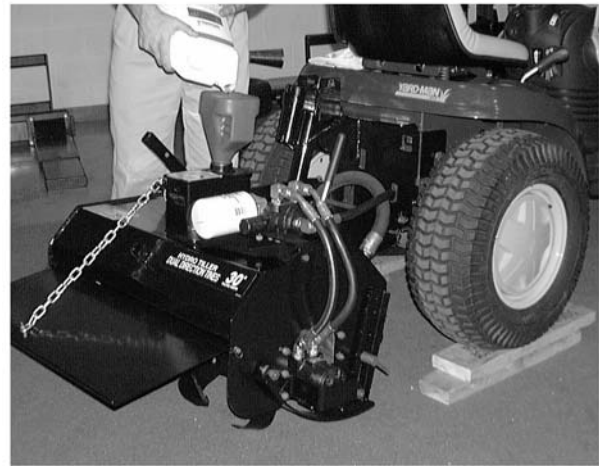

Figure 8-72.
2. Raise the rear wheels of the tractor, and lower the tiller until the reservoir tank is level with the ground. See Figure 8-72.